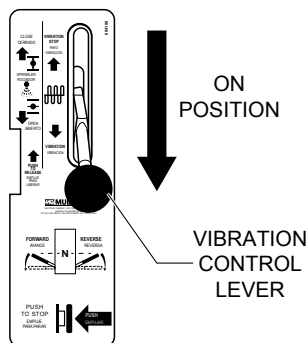

Figure 28. Vibratory Control Lever (ON)
1. For vibratory action with the engine running (full speed), place the vibratory control lever (Figure 28) to the **ON** position. The roller will now produce a vibratory frequency of 4,400 vps.